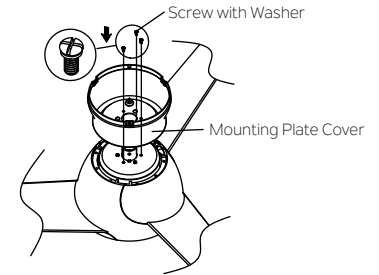

Fig. 8
Step 4. Carefully feed the wires up through the mounting plate cover, lightly attach mounting plate cover over the motor and securely tighten with three (3) screws with washer found in mounting plate cover hardware bag.(Fig. 8)